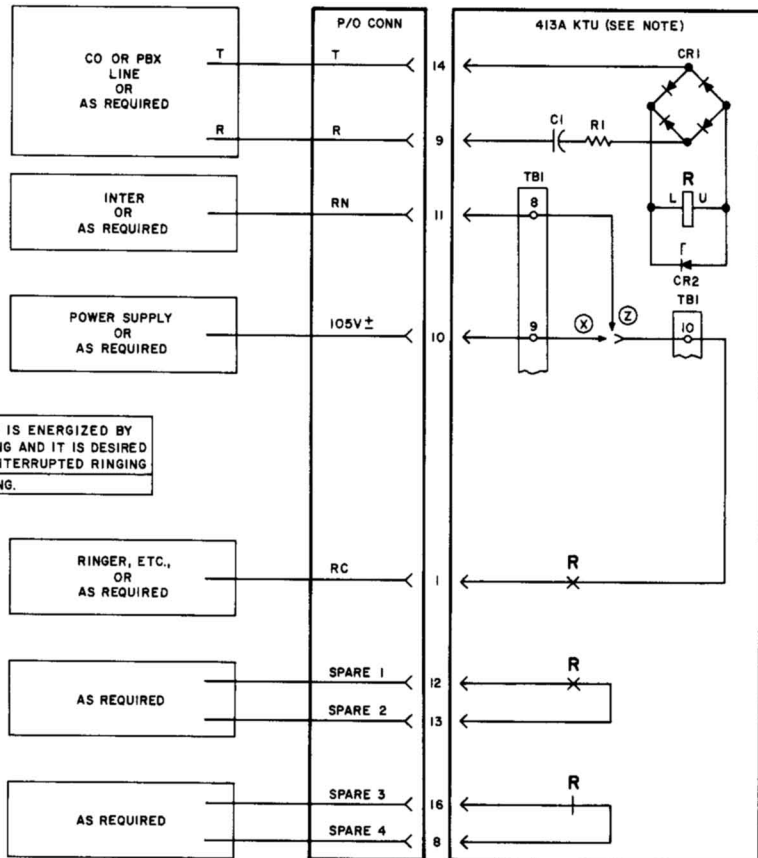

Fig. 6—Condensed Functional Schematic of 413A KTU (Auxiliary Ringup Circuit)
2.04 The 413A KTU (Fig. 6) is a 4-inch, 18-contact unit providing an auxiliary nonlocking ring detector for use on CO or PBX lines supplying either 20- or 30-Hz ringing voltage. Contacts of the ringup relay can be used for controlling external signaling functions or relays. The KTU has the following operating features: